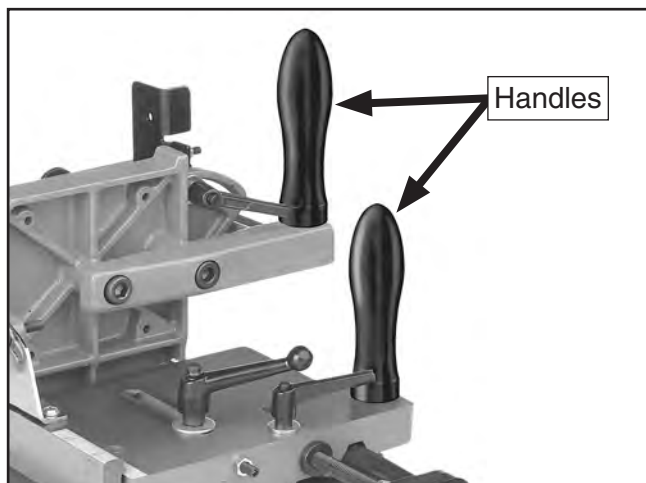

Figure 7. Handles installed.
2. Install the handles into the threaded holes on the clamp brace and the slide plate, as shown in **Figure 7**.